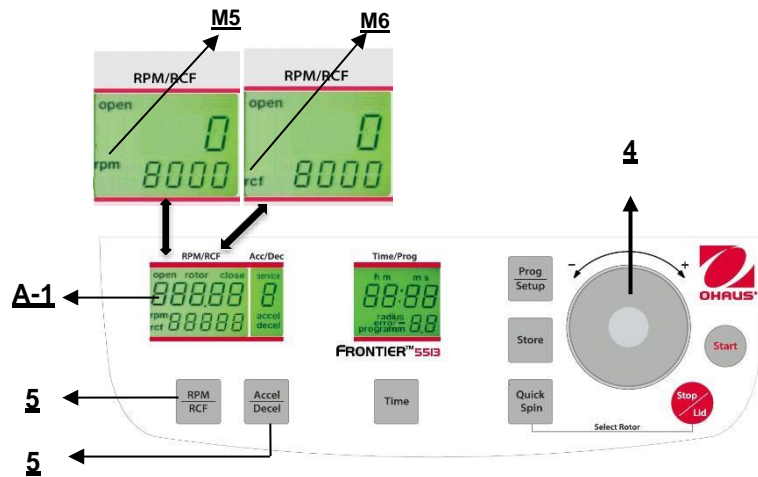

Figure. 13
This pre-selection is activated through the key **"RPM/RCF"** (5) (refer to figure 13 below). By pressing the key once the word **"rpm"** (M5) flashes. By pressing the key twice, the pre-selection of the centrifugal forces can be selected. Then the flashing word **"rcf"** (M6) appears. You can set the desired values with the adjusting dial (1). In the display (A-1) the regulated value is shown permanently, before, during and after the run.